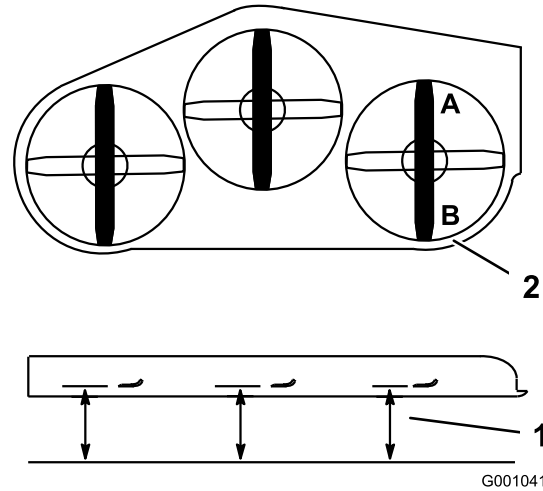

Figure 57
1. Position the right blade front-to-rear (Figure 57).
2. Measure the right blade at the **A** location, from a level surface to the cutting edge of the blade tip (Figure 57).
4. Measure the right blade at the **B** location, from a level surface to the cutting edge of the blade tip (Figure 57).
6. The mower blade should be a 1/4 to 3/8 inch (6 to 10 mm) lower at position **A** than at position **B** (Figure 57). If it is not correct, proceed to the following steps.